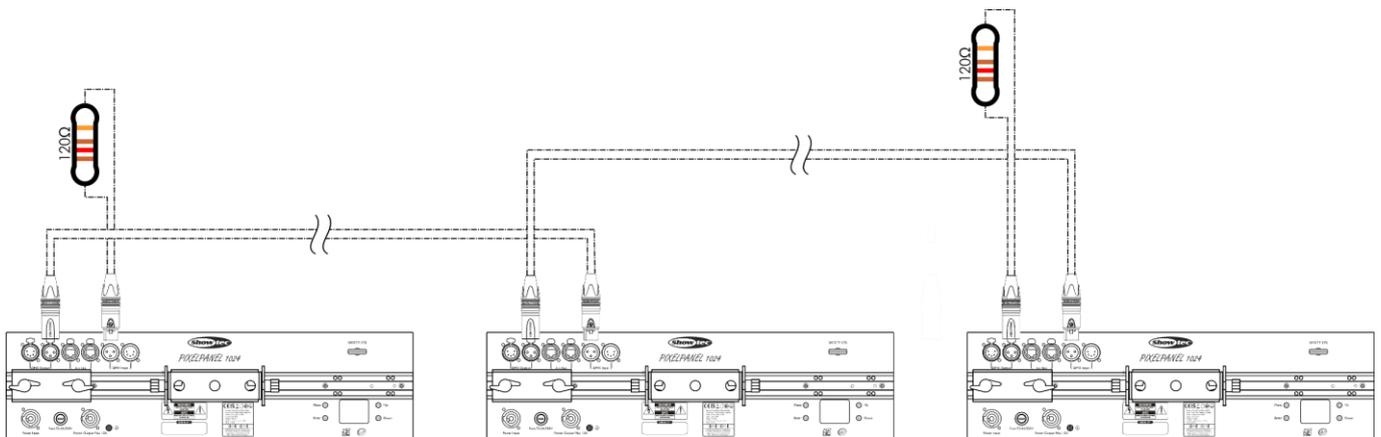

Fig. 06
- 02) Repeat step 1 to connect all devices as shown in Fig. 06.